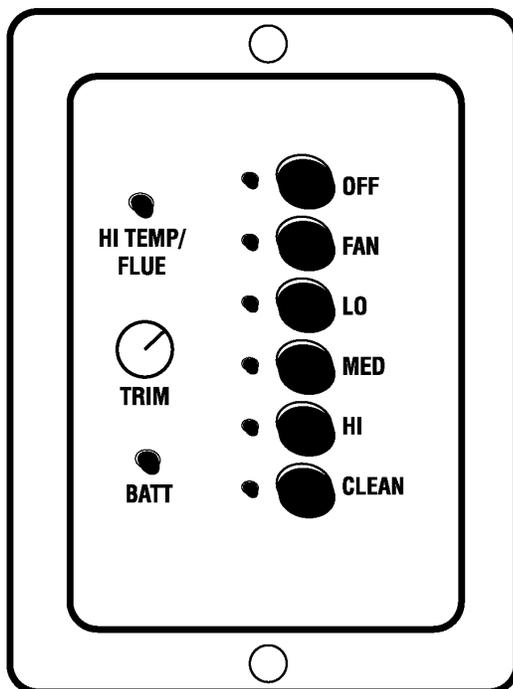

FIGURE 11
The control functions on the Echo are as follows: OFF, FAN, LOW, MED, HIGH, and CLEAN (see Figure 11).
1. The Trim Button located on the control plate (see Figure 11) will allow you to change the feed rate on each setting (i.e., Hi, Med, Low). By turning the trim button clockwise you can increase the feed rate, and by turning the trim counterclockwise you can decrease the feed rate. For example, if the pellet you are using is a hardwood pellet and longer than 1”, then the stove could go out on the low setting for lack of fuel. Turn the trim clockwise to increase fuel and thus sustain the fire.